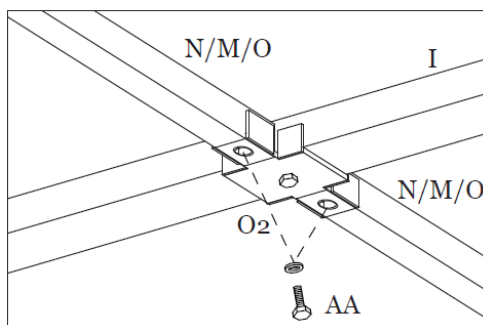

Figure 12-4
Step 12D: Attach the Main Roof Horizontal Supports (M, N and O) to the Main Roof Connectors (O2) using Bolts (AA). See Figure 12-4.